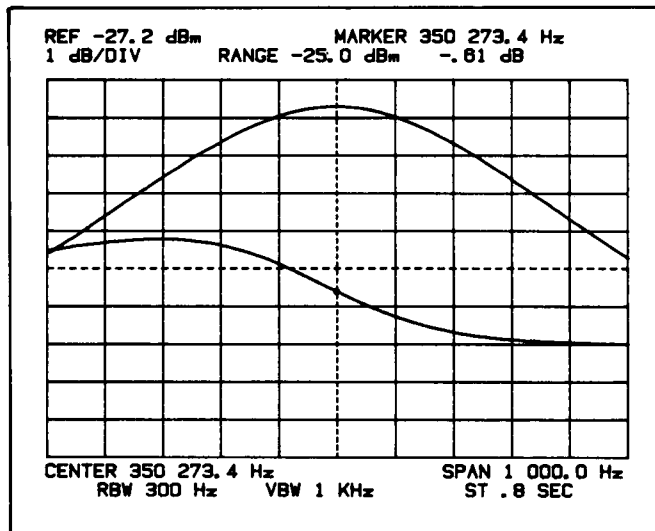

Figure 5-27. Off-Center IF Stage, A-B Mode
d. Both the A and B traces should now be displayed as in Figure 5-27.